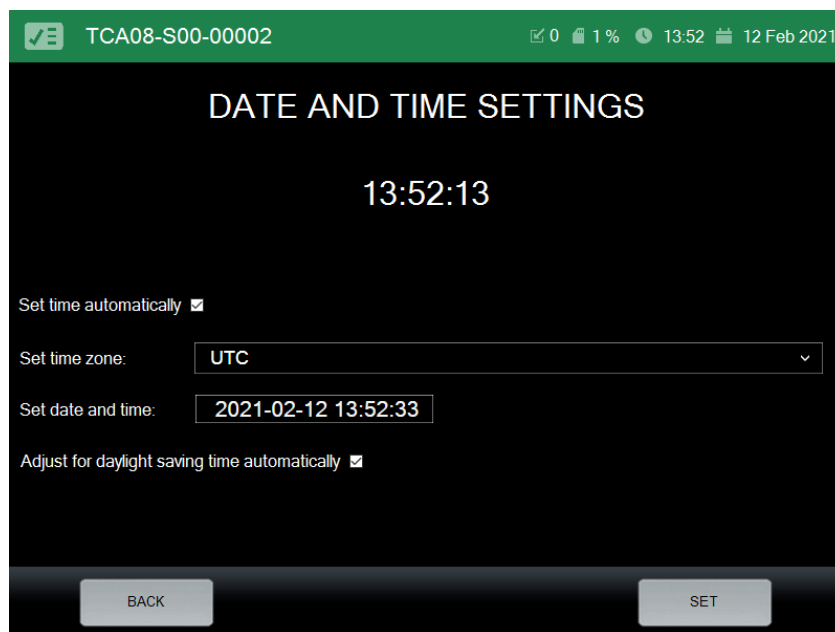

Figure 31. Date and Time settings
- Press the Date/Time icon in the top green status line and adjust Date/Time and time zone (Figure 31). If the TCA is connected to the internet, Date/Time and time zone can be adjusted automatically.